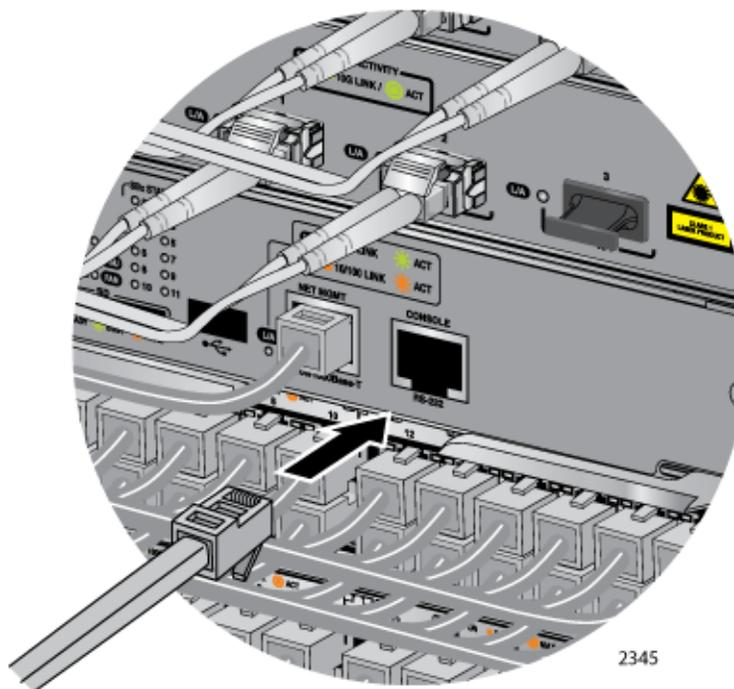

Figure 141. Connecting the Management Cable to the Console RS-232 Port
1. Connect the RJ-45 end of the management card included with the AT-SBx31CFC Controller Fabric Card to the Console RS-232 port on the front panel of the AT-SBx31CFC Card, as shown in Figure 141. If the chassis has two controller cards, you must connect the cable to the Console RS-232 port on the active card. To determine which card is the active card, examine the M/S LEDs. The LEDs are green on the active card and amber on the standby card.